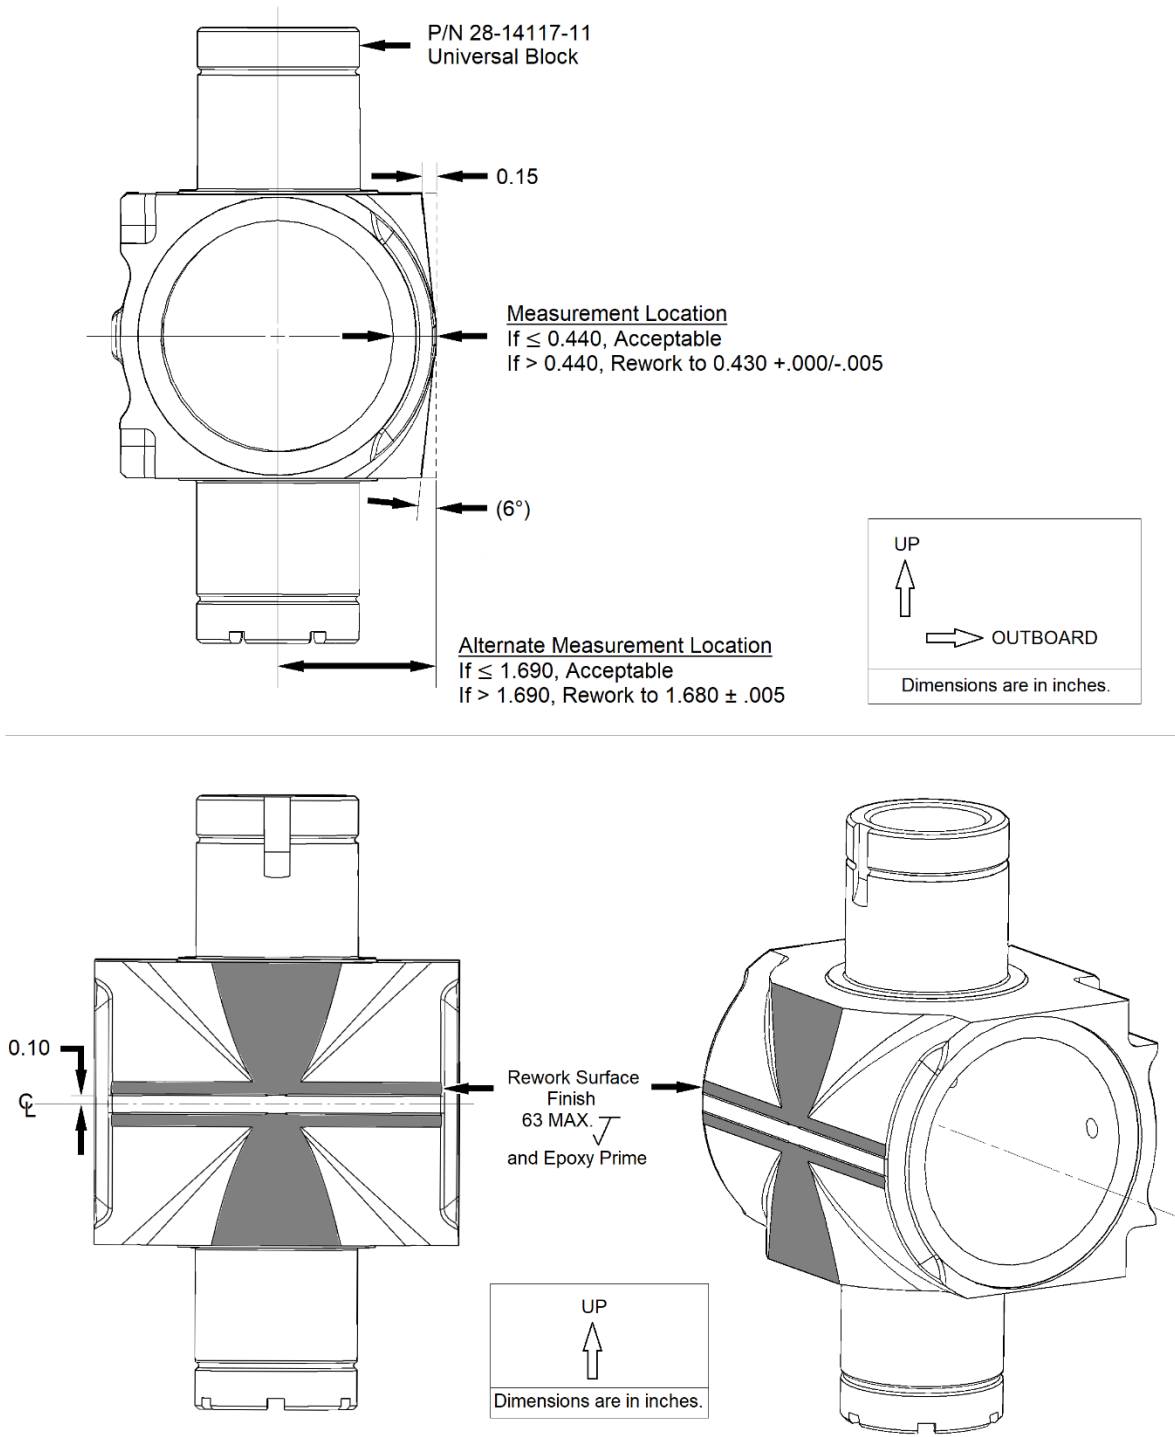

Figure 1. Universal Block Inspection and Rework Criteria
6.2.1 Measure the cross-section distance from the flapping pin bore surface to the outside surface of the universal block (Figure 1). (An alternate measurement location, flapping pin bore centerline to outside surface, is also acceptable for determining if rework is necessary. See Figure 1.)
6.3 If the width is greater than 0.440, the universal block surface must be reworked per the parameters depicted in Figure 1.
6.3.1 Mill the flats and chamfer the outboard top and bottom edges as shown in Figure 1 (63 maximum surface finish).